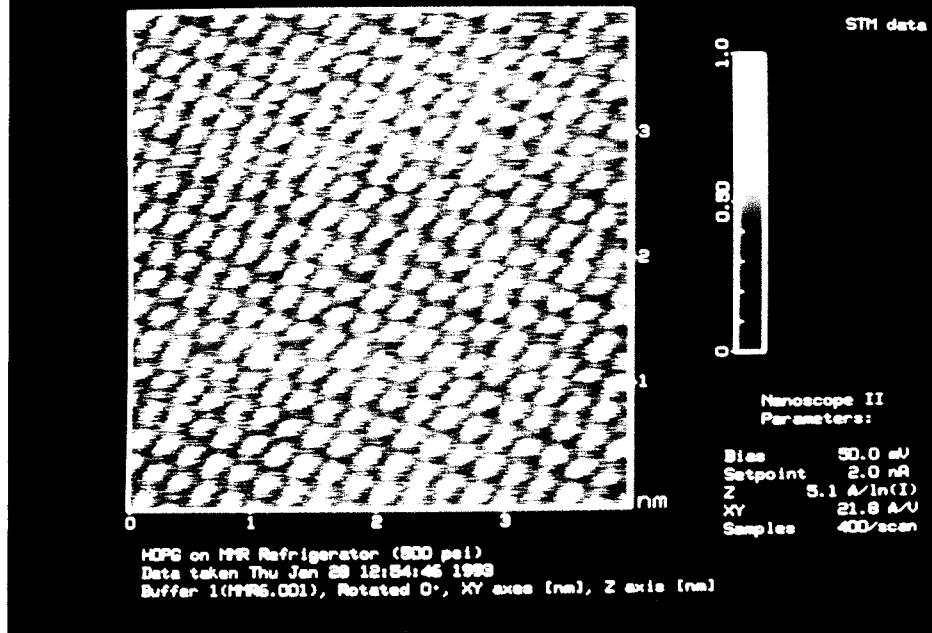

FIGURE 7
- Figure 7:** STM image with gas flowing, inlet pressure of 500 psi. Vibration amplitude is less than 2.4 angstrom.